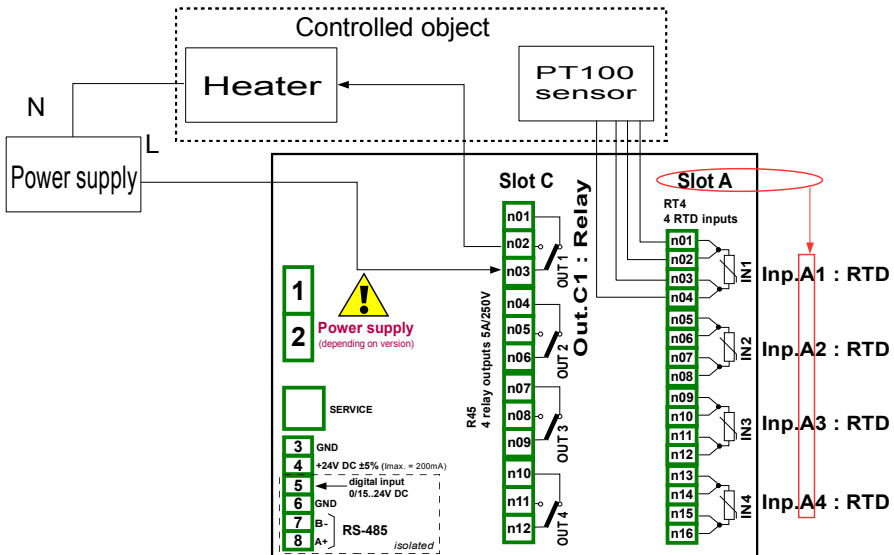

Fig. 7.91. Schematic diagram for the RTD input and Relay output modules
First configure the device as described below, then connect the object and power supply as shown on **Fig. 7.91**. See also **Appendix 8.6. RT4 , RT6 – RTD MEASUREMENT MODULES**.
To control temperature in object shown on **Fig. 7.91**, it is necessary to configure one **Logical channel** and **Relay output**.
- **Source** parameter set as **Inp.A1 : RTD** (see **Fig. 7.91**),
- using the arrows in the top navigation bar, select a relay output which is connected to heater. For this example it is the output named Out.C1 : Relay (see **Fig. 7.91**),